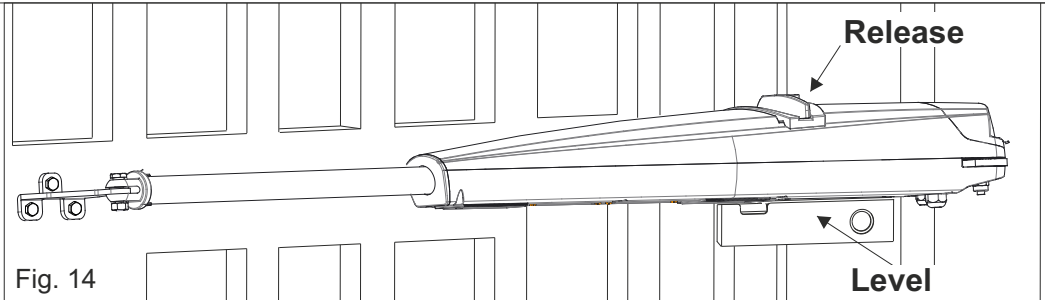

Fig. 14
- 1 - For the correct operation it is very important to position both the operator and its front and rear fixing brackets, in a perfectly horizontal way, by using a level, as shown in Fig. 14
- 3 - The operator must be mounted with the release facing upwards (Fig. 14)
The support must be positioned so that the operator is in a perfect horizontal position (see Fig.14)